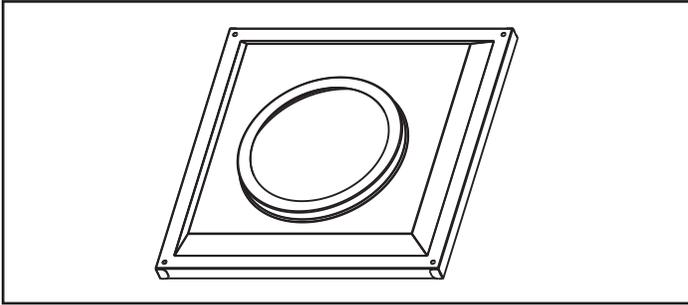

Figure 7.17 - Wall Thimble
- Once the pipe section and the termination cap have been connected, slide the wall thimble up to the interior wall surface and attach with screws provided. See Figure 7.17.